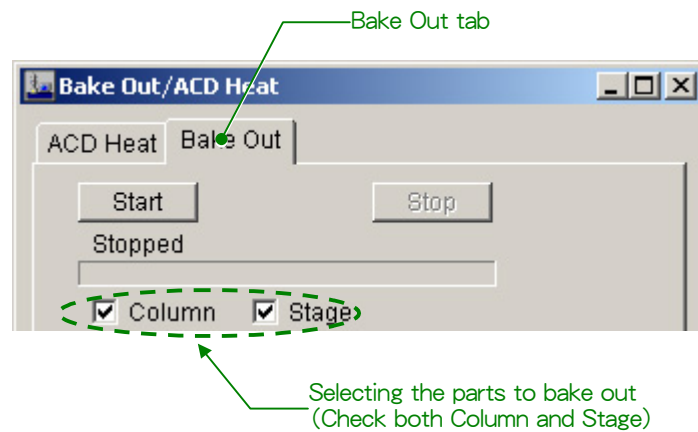

Fig. 6.20 Selecting the parts to bake out (Bake Out/ACD Heat window)
3. Select Column and Stage in the **Bake Out/ACD Heat** window if the checkmarks are off (Fig. 6.20).